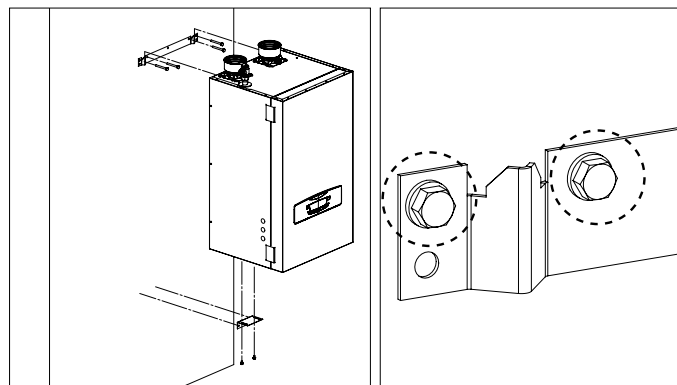

Figure 5 - Mounting to a Concrete Wall
1. Position the upper wall mounting bracket on the concrete wall. Ensure the bracket is level. Then use the bracket as a template to mark four (4) drilling holes on the wall - two (2) on each side of the bracket. See Figure 5 for details.